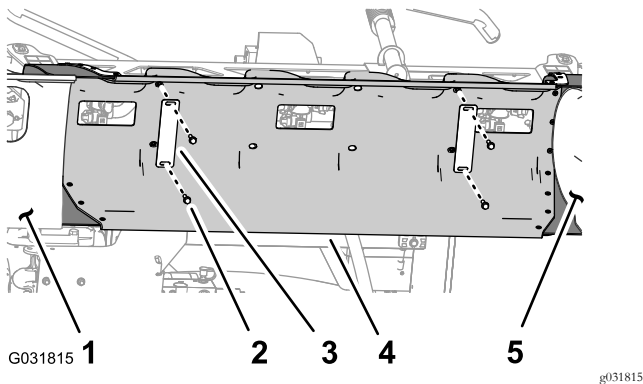

Figure 25
1. While supporting the center-section cover (11-nozzle), remove the 4 flange-head bolts (5/16 x 1-1/4 inches) and 2 cover straps that secure the cover to the cover-support bracket (Figure 25).